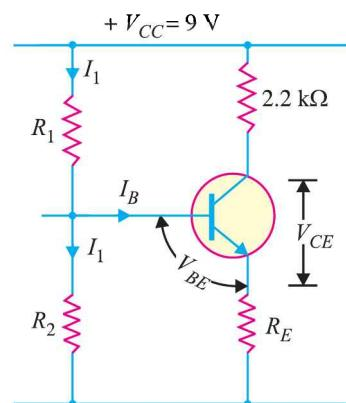

Fig. 9.31
**Example 9.25.** In the circuit shown in Fig. 9.31, the operating point is chosen such that  $I_C = 2\text{mA}$ ,  $V_{CE} = 3\text{V}$ . If  $R_C = 2.2\text{ k}\Omega$ ,  $V_{CC} = 9\text{V}$  and  $\beta = 50$ , determine the values of  $R_1$ ,  $R_2$  and  $R_E$ . Take  $V_{BE} = 0.3\text{V}$  and  $I_1 = 10I_B$ .